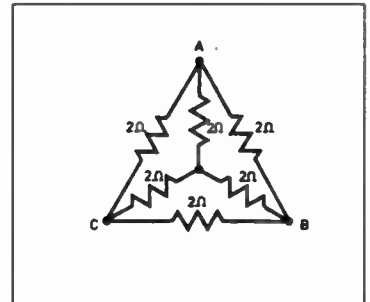

Fig. 4.12. A resistance problem.
7. What is the resistance between any two vertices e.g. A and B, of the network of Fig. 4.12?